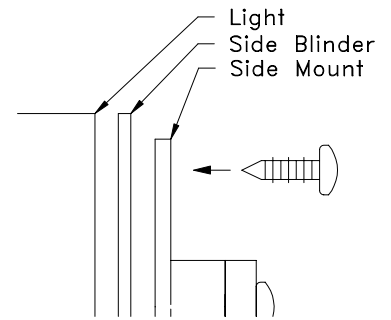

Figure 9 - Attach Blinders and Side Mounts
- If blinders are being used, attach the side mounts and blinders to the case with the four #8 self tapping screws as shown in Figure 9.